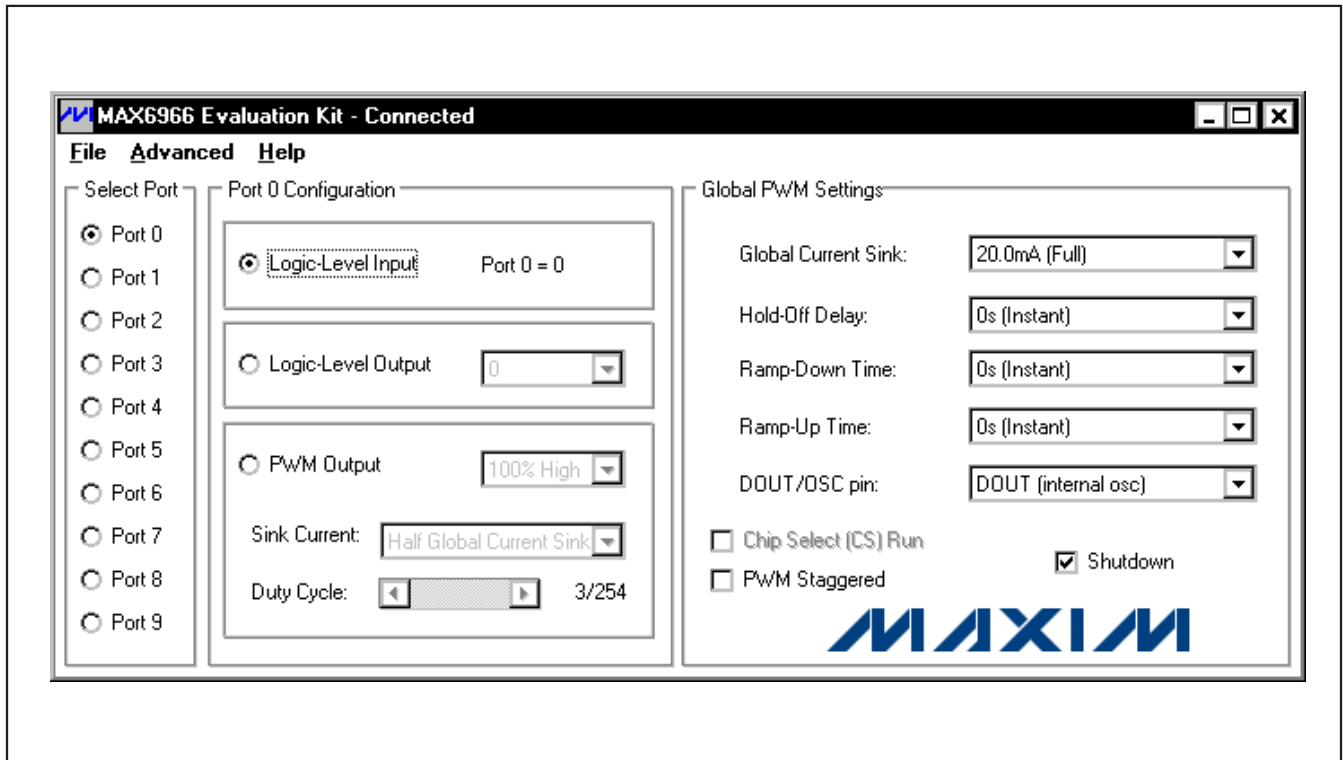

Figure 1. MAX6966 EV Kit Software Screenshot
- 10) Start the MAX6966 EV kit software by double-clicking its icon in the **Start** menu. The application window shown in Figure 1 appears, and the software connects to the CMAXQUSB after a few seconds.
To start the MAX6966 EV kit software, double click the MAX6966 EV kit icon that is created during installation. The graphical user interface shown in Figure 1 appears. Wait approximately two seconds while the MAX6966 EV kit software connects to the CMAXQUSB.